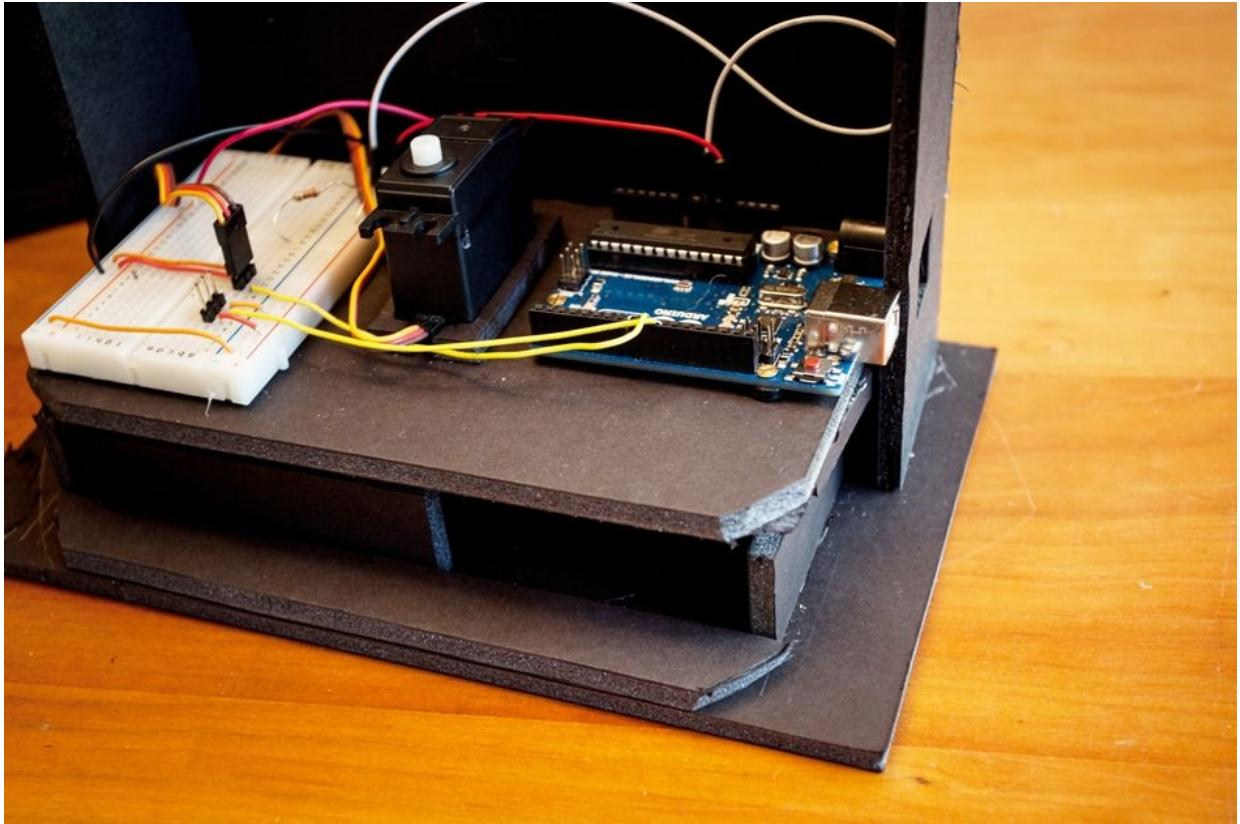

Figure 7-14. You need to cut the corners off of your lower base to allow for the curve of the support
7. You'll probably need to nick off the corners of the inner base to allow for the disk support's curve, as in Figure 7-14.